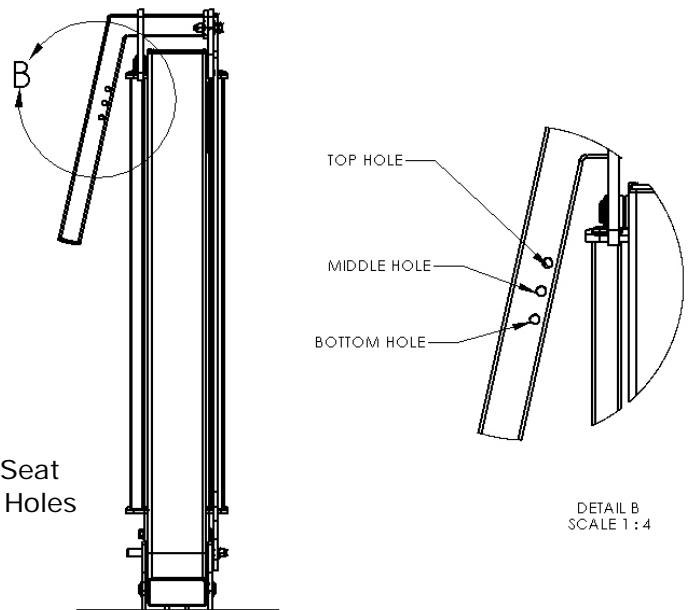
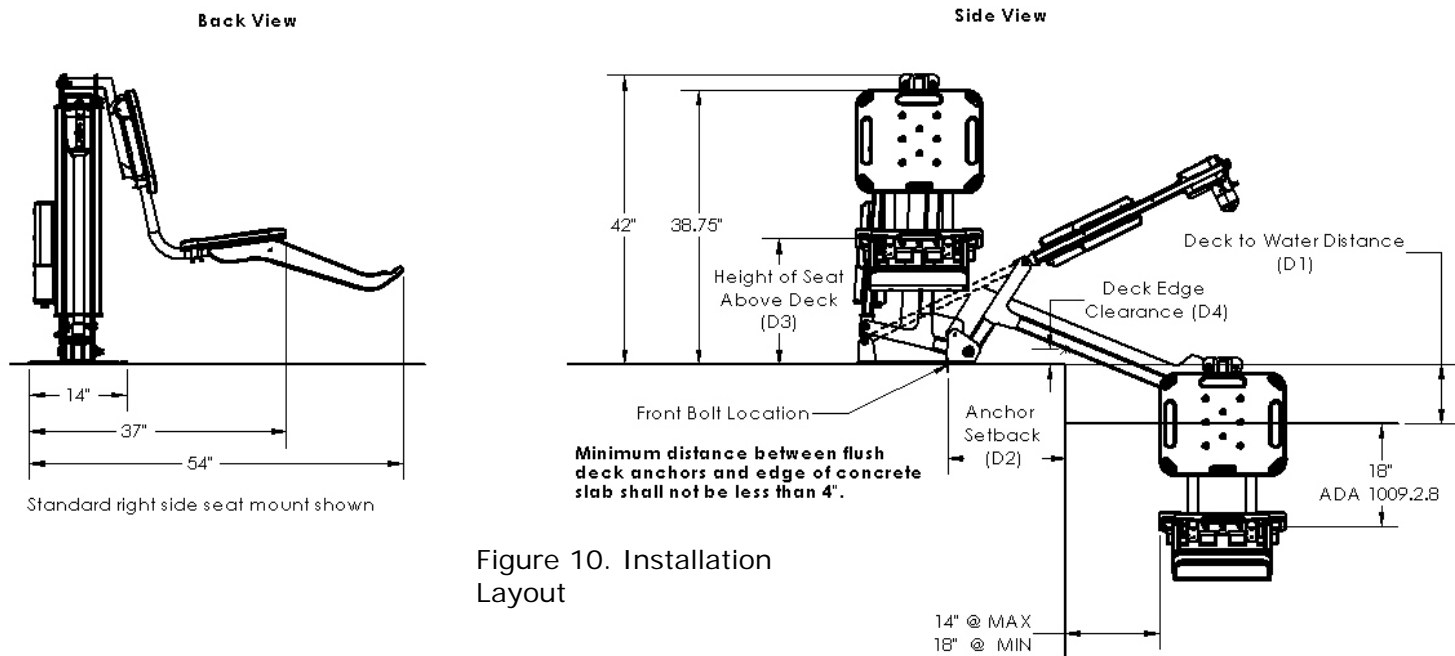

Figure 6. Seat Mounting Holes
Figure 10. Installation Layout
The multiLift™ has a mast height of 42 in / 106.6 cm above the deck. It is intended to be used with simple pool gutter configurations having a deck to water distance of no more than 8 inches, see Table 1 and Figure 10 to determine if the multiLift™ will work on a specific pool. The maximum weight capacity for multiLift™ is 350 lb/158.75 kg. Only persons healthy enough for water activities should use the multiLift™. Users should consult with their physician to determine if water activities are appropriate for the user.
12. Attach seat assembly with bolt and thumbnut in appropriate hole. Refer to **Figure 10** and **Table 1** to determine the correct seat mounting hole to use. Also see **Figure 6**.
The optimal mounting distance for the deck front anchors is 12.5"/ 31.75 cm from the edge of the pool. The front anchors can be installed up to a maximum of 17"/43.18 cm from the edge of the pool, but the deck edge clearance decreases the farther the lift is installed from the pool edge. The setback distance from the pool edge to the front anchor locations varies depending upon pool geometry. The multiLift™ is designed to be used with simple pool edge designs with deck to water level differences of 0" to 8" maximum. Review **Figure 10** and **Table 1** to determine the correct seat mounting location and anchor installation setback for your pool.
3. Use **Figure 10** and **Table 1** to determine the proper location to install the lift, making certain that the front anchors are located the correct distance from the pool edge.
2. Use **Figure 10** and **Table 1** to determine the proper location to install the lift, making certain that the front anchors are located the correct distance from the pool edge.